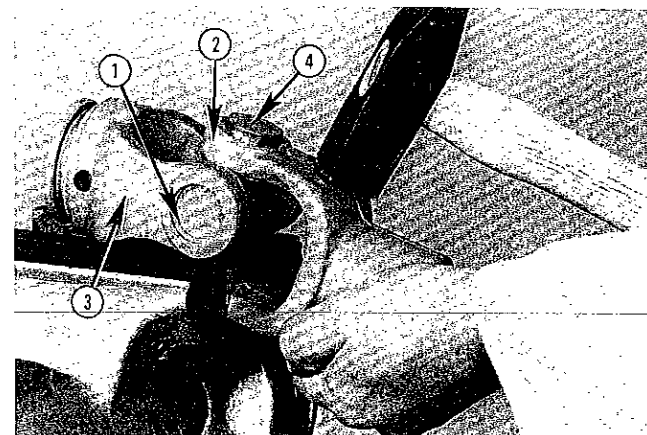

FIGURE 90
7. Repeat above steps to remove both needle bushings and center cross from opposite end (7) of flange assembly. Refer to Figures 90 and 91, page 44 and 45 for removal of needle bushings and center crosses from both outer yokes. Rest their "bare" center crosses on the vice jaws because they will be discarded.